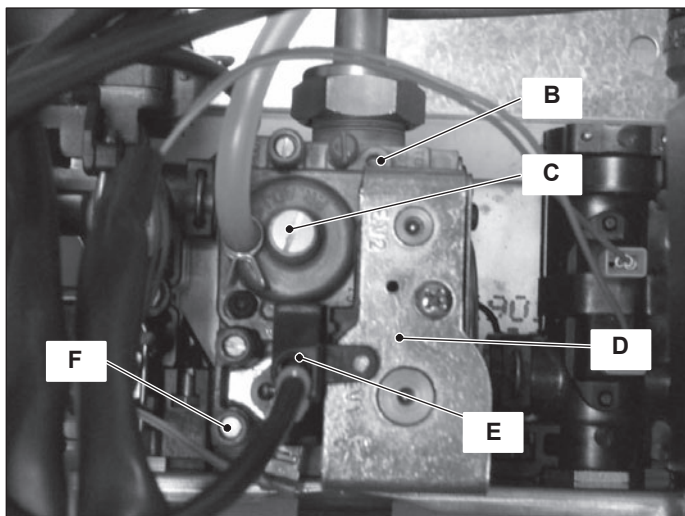

Figure 11.2
- (Figure 11.2)
- 3 Loosen the internal screw on the Inlet Pressure Test Point F (Figure 11.2) of the Gas valve and connect a pressure gauge using a suitable hose.
- 10 Disconnect the pressure gauge and close the Inlet Pressure Test Point F (Figure 11.2).
21 Read the CO₂ % value. It should be between 9,0 and 9,8 % (natural gas G20) or between 10,0 and 11,0 % (LPG G31). To adjust the CO₂ % value remove the brass plug by unscrewing it and rotate the Allen key screw ø 4 mm (C - Figure 11.2) (by rotating it clockwise the CO₂ % increases).
24 Read the CO₂ % value. It should be between 9,0 and 9,8 % (natural gas G20) or between 10,0 and 11,0 % (LPG G31). To adjust the CO₂ % value rotate screw (B - Figure 11.2) (by rotating it clockwise the CO₂ % decreases).
27 After adjustment fit the protective brass plug (C - Figure 11.2).
- 2 Disconnect the electrical connector E (Figure 11.2).